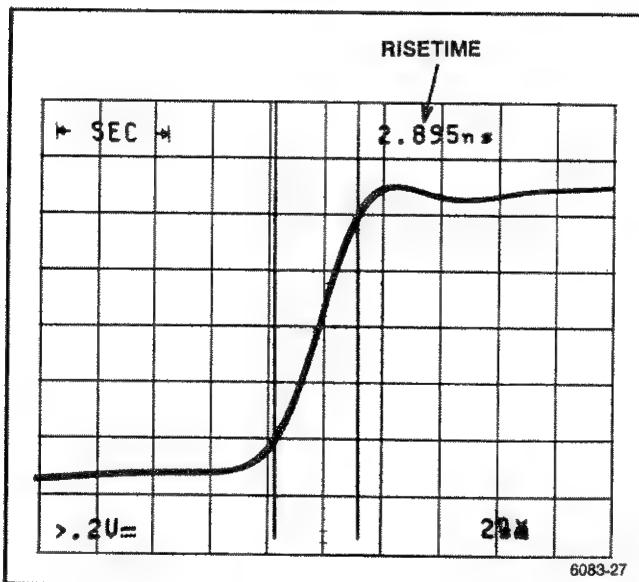

Figure 6-13. Rise time measurement.
4. Advance the SEC/DIV setting to stretch out the rising edge of the waveform as much as possible to improve the cursor placement accuracy (see Figure 6-13).
7. Use the I- OR DELAY control to align the first cursor to the rising edge at the point it crosses the 10% reference graticule line. Then use the -I OR Δ control to align the second cursor to the point that the rising edge crosses the 90% graticule line and read the rise time displayed in the top line of the crt readout (see Figure 6-13).